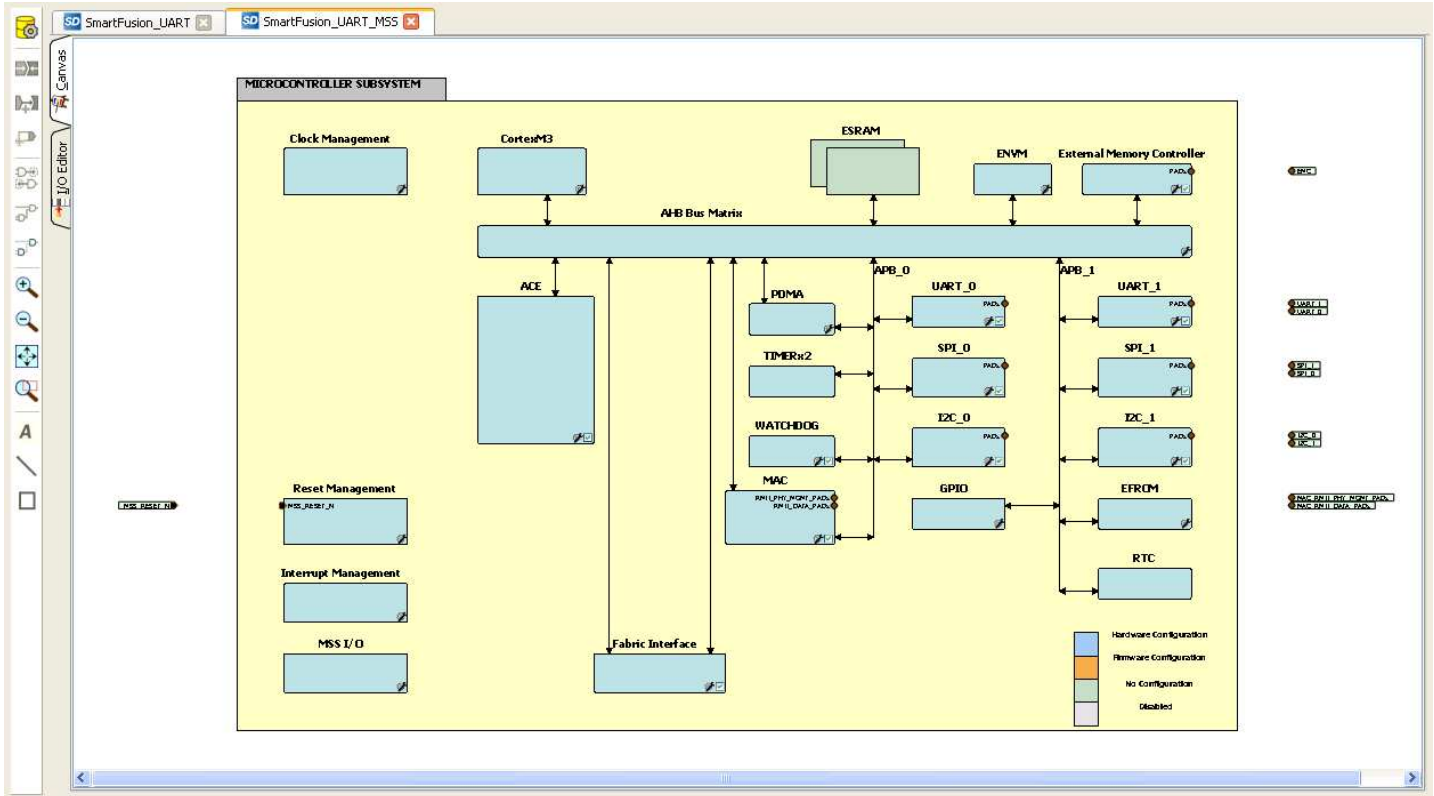

Figure 5 · MSS in the SmartDesign Canvas
- Double-click the **SmartFusion_UART_MSS_0** component to configure the MSS. The MSS is displayed in the SmartDesign Canvas in a new tab, as shown in Figure 5 .